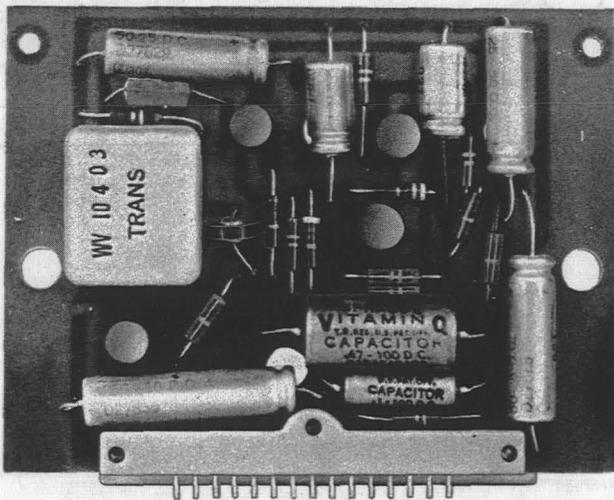

Fig. 2 - KS-16728, List 1 Amplifier
3.01 The KS-16754 amplifier unit consists of a KS-16728, List 1 amplifier (transistorized, printed circuit, plug-in type, Fig. 2), a gain control, and input and output transformers.